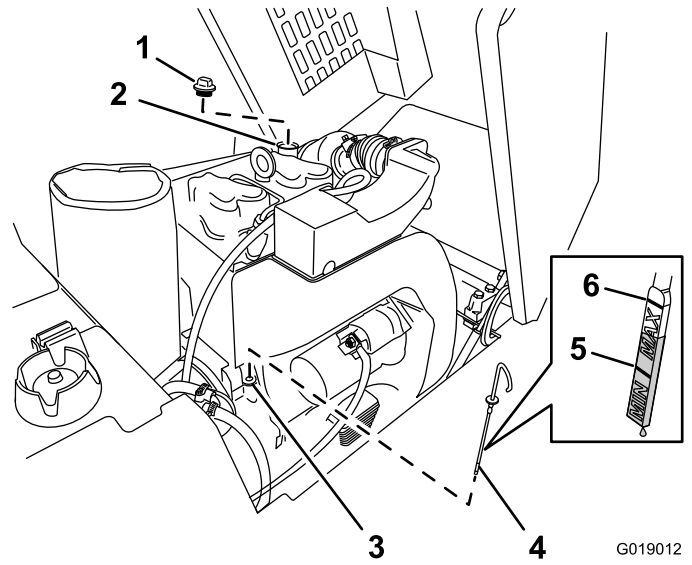

Figure 28
4. Clean around the oil dipstick and dipstick fitting (Figure 28).
8. If the oil level is below the Min-level mark on the dipstick (Figure 28), perform the following steps:
- A. Clean around the oil-filler cap, and remove the cap (Figure 28).
- B. Slowly pour enough oil into the oil-fill tube to raise the level on the dipstick to between the Min- and Max-oil level (Figure 28).
- C. Install the oil-filler cap (Figure 28).